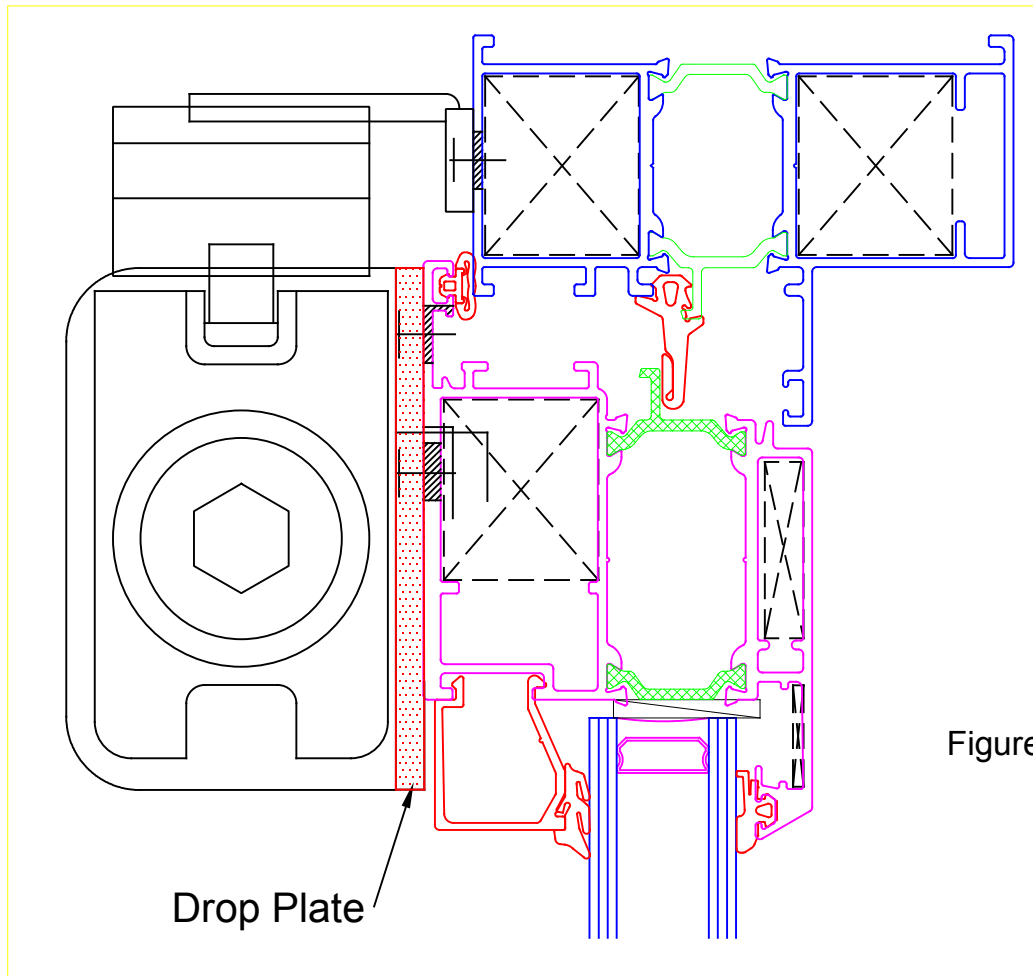

Figure 21
- B. The door will come with a drop plate pre-attached to the door panel. Use the screws that are supplied with the kit to attach the closer to the drop plate (See figure 21).
- C. When attaching the arm to the door frame use the two (2) 1/4-20 x 5/8" PH FL MS 188 (Part #939100) that are separately supplied by Graham Architectural. The pre-threaded attachment points are installed at the factory.